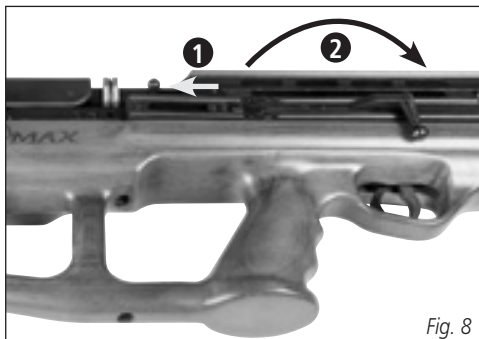

Fig. 8
5. Unlock magazine release bolt by sliding it down and backwards. (Fig. 8). If necessary rotate the magazine counter-clockwise until its movement is arrested by the magazine stop.
6. Close the cocking handle and ensure that it lays flat against the rifle. (Fig. 8)